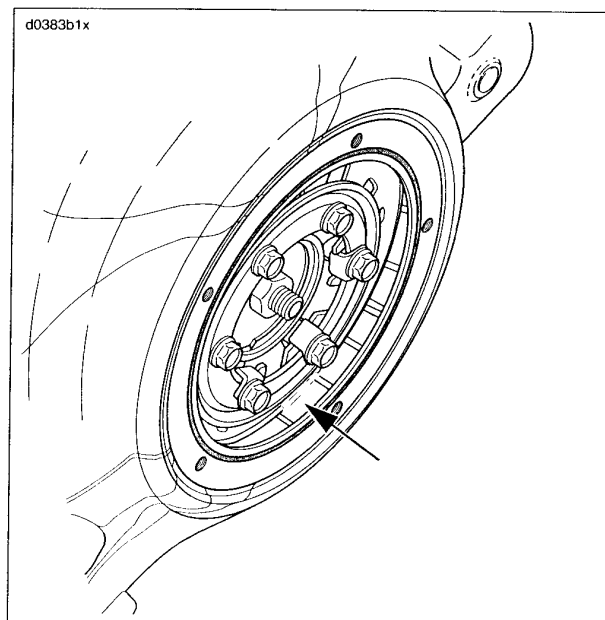

Figure 1-26. Chaincase Lubricant Level
5. Pour 26 oz (768.9 ml) of primary chaincase lubricant in through the clutch inspection cover opening. See Figure 1-26. The primary chaincase lubricant level is acceptable when lubricant is visible in the bottom of the chaincase with the motorcycle standing upright (not resting on jiffy stand).